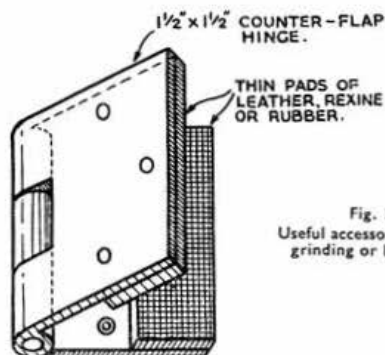

Fig. 5.
(2) A "sluggish" crystal can generally be improved by slight edge grinding or bevelling. This process has been described elsewhere, but a useful accessory is shown in Fig. 5. This is a device in which to hold the crystal while edge grinding and consists of a  $1\frac{1}{2}$  in. square counter-flap hinge with a strip of thin rubber, rexine, soft leather, or cork stuck to each of the inside faces of the hinge.
(3) A chromic acid solution for cleaning quartz crystals can be made by mixing chromium trioxide crystals in warm water in the ratio of 1 gram of crystals to 1 c.c. of water. A workable figure is to mix the contents of a 500 gram bottle of crystals with half a pint of water. When the solution develops a green tinge, its useful life is over and it should be neutralised and discarded. Chromic acid will burn the flesh, so take care!